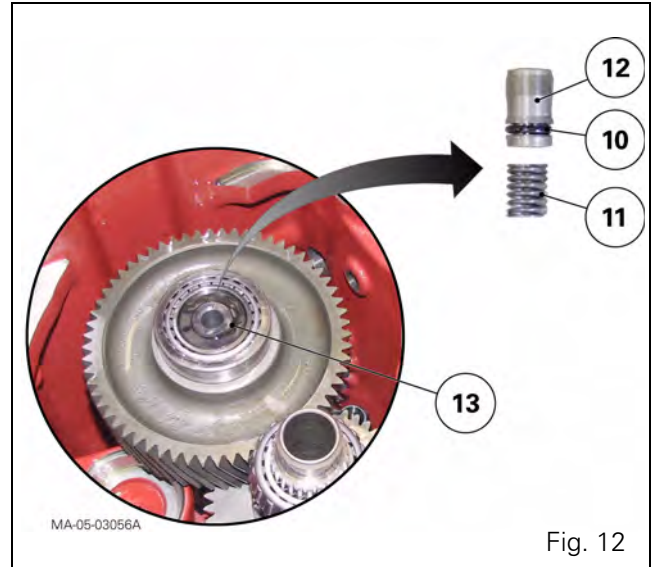
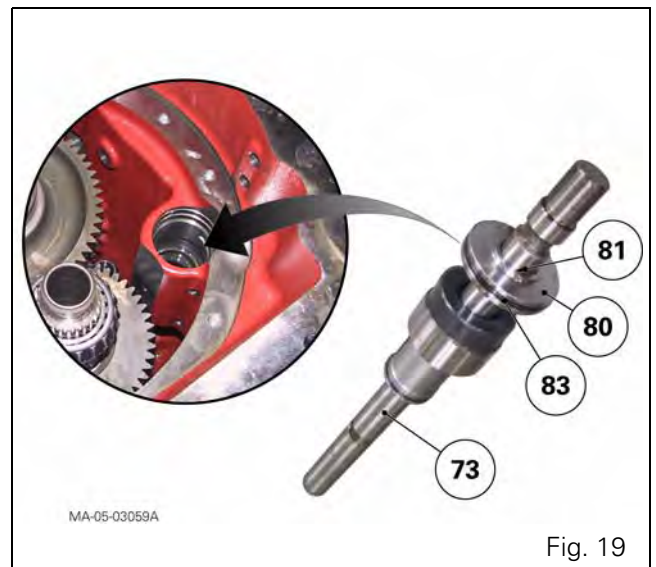

Fig. 12
Fig. 19
14. Remove the cover (6).
15. Recover the bearing cups (3), (8) and (114) and the shims (4), (7) and (113).
16. Recover the lubricating pipe (12), the seal (10) and the spring (11) (Fig. 12).
37. Refit the lubricating pipe (12) fitted with a new "O" ring (10) and the spring (11) (Fig. 12).
38. If the sleeve (77) and the circlip (76) have been removed, grease the sleeve, insert it into the cylinder, then fit the circlip (77).
39. Thread the selector rail (73) with the lightly greased piston assembly into its housing (Fig. 19).
40. Fit the plug (80) fitted with two new "O" rings (81) (83). Fit the circlip (82) (Fig. 19).